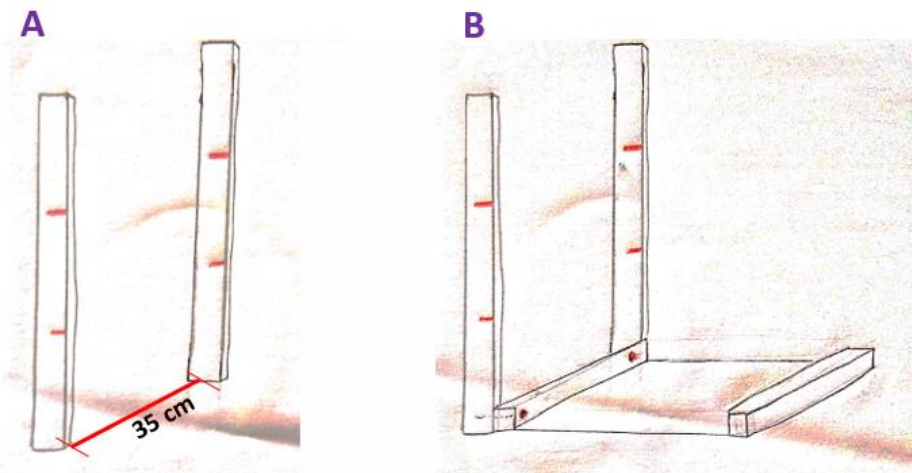

Figure 8: Drawings of the base attached to the 90 cm sticks
3.- Take two 90 cm poles, and separate 35 cm to proceed to nail the triplex (Figure 8).